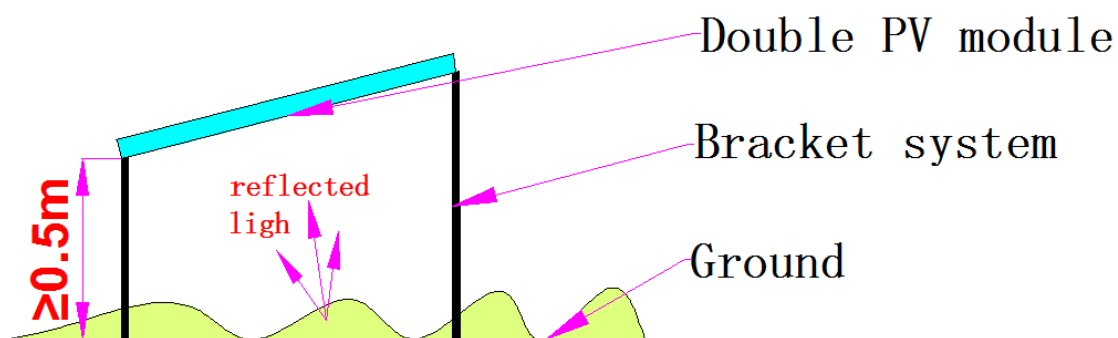

Fig. 4
- 2) Ground clearance of bifacial double glass PV module ($\geq 0.5\text{m}$) , please reference following Fig. 4